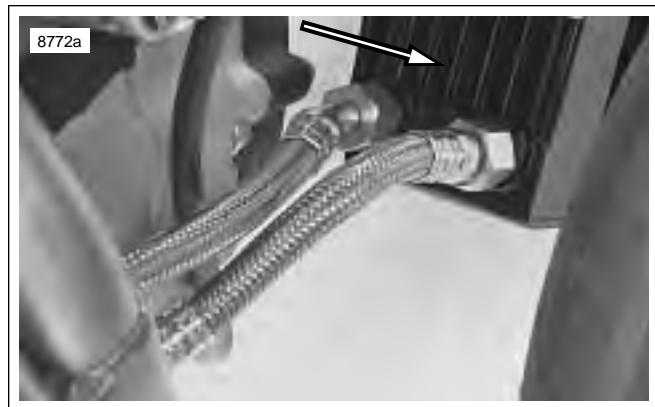

Figure 1-8. Inside of Oil Cooler
7. See Figure 1-8. Blow out any debris from fins with compressed air from the inside of the oil cooler outward. Inspect cooler fins for debris or damage.